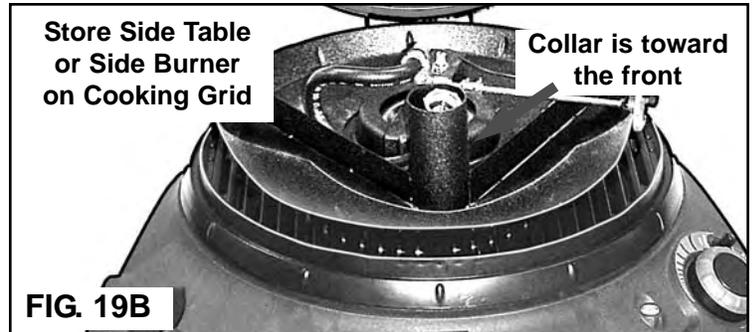

FIG. 19B
- b) Place Side Burner (or Side Table) upside down on the Cooking Grid under the Hood. **(FIG. 19B)** Make sure the collar is toward the front so the hood will close.